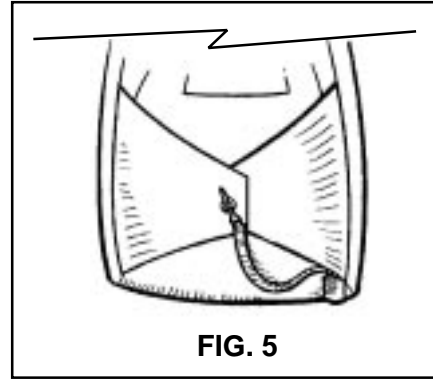

FIG. 5
5. Close the right side flap then the left side flap. Secure the closing loop with the pin (FIG. 5).